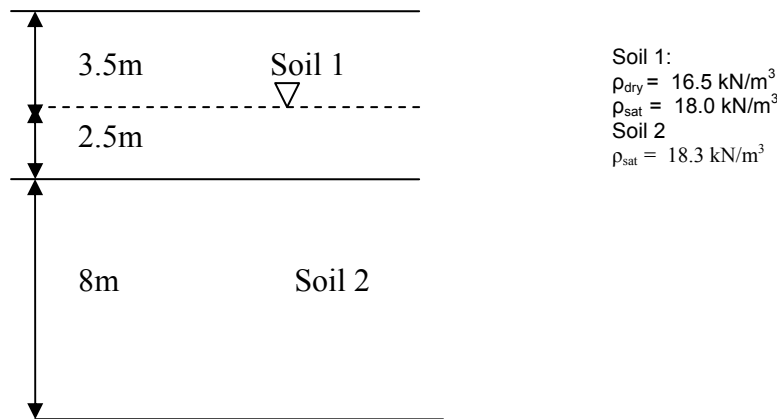

Figure 1
- (b) Based on the soil investigation, the profile as shown in Figure 1 is obtained. Draw the following distribution :-